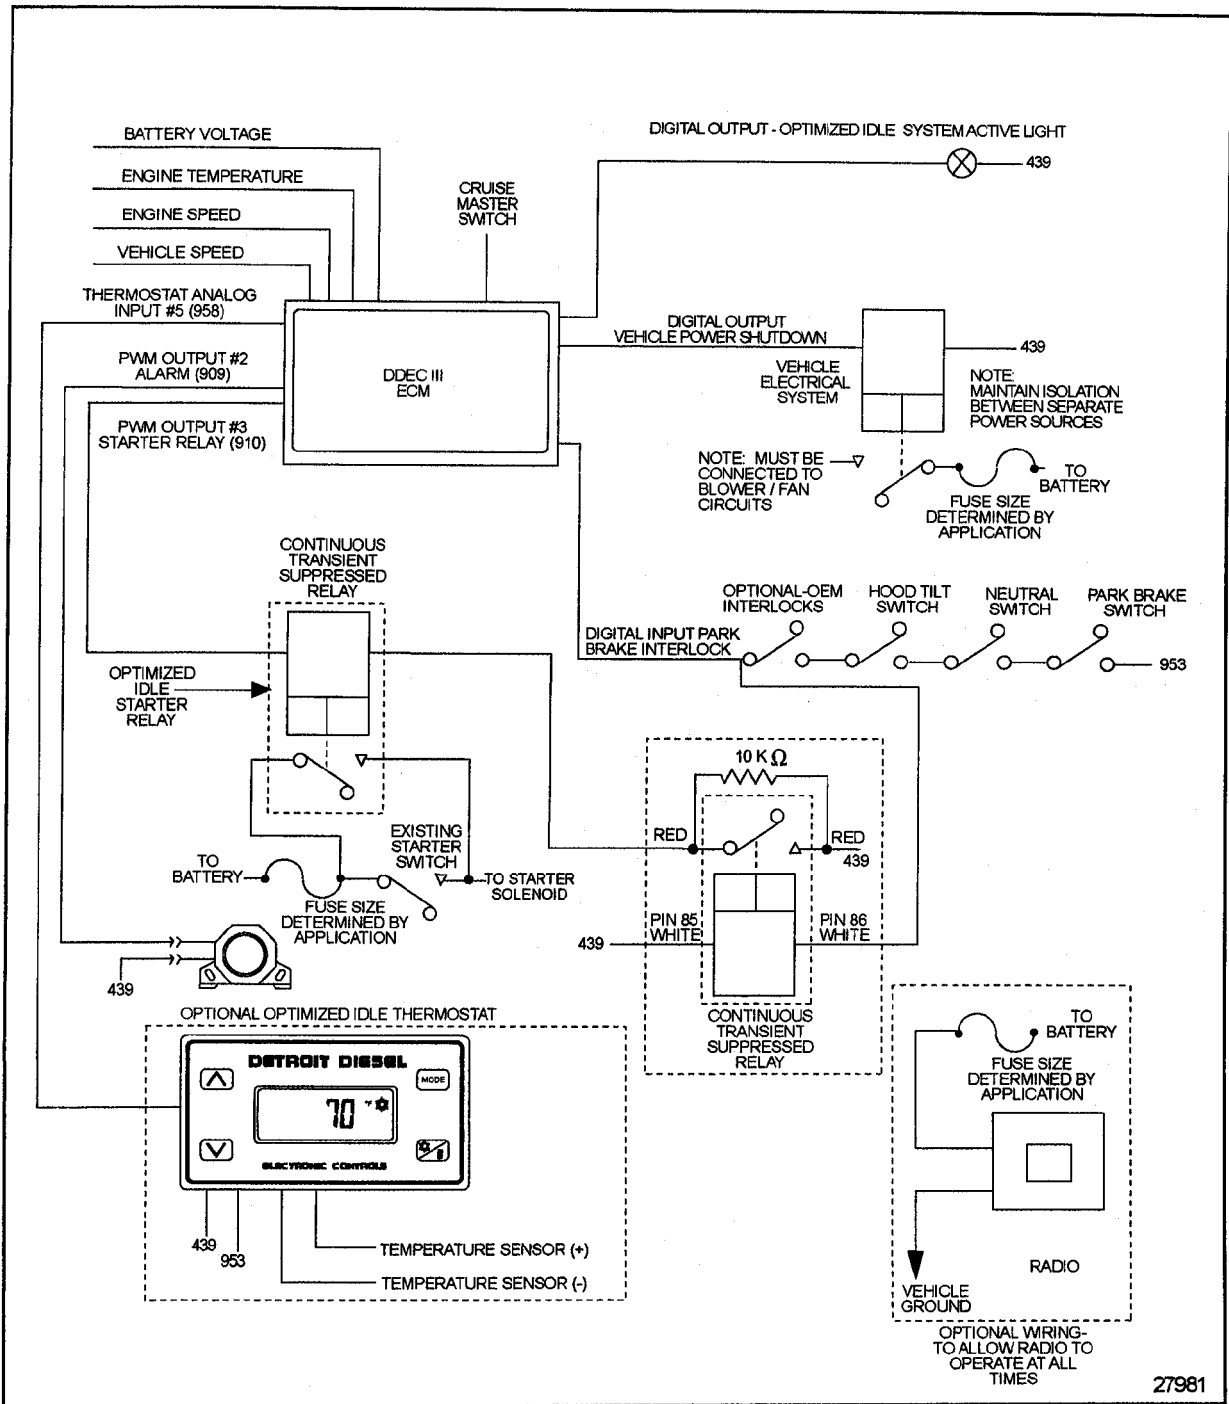

Figure 8-23 Optimized Idle System Overview
3. Locate Optimized Idle starter relay. See Figure 8-23.
1. Mount relay supplied in kit near Optimized Idle starter relay. See Figure 8-23.
7. Splice the pink wire (439) to DDEC wire 439.